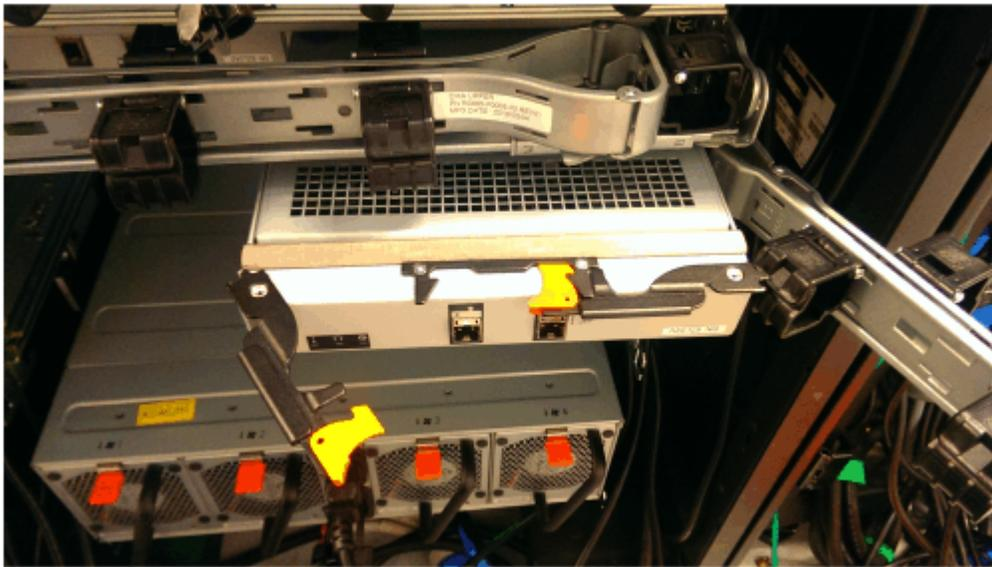

Figure 63. Install the expansion canister
1. Disconnect the elbow of the lower cable management arm to swing it out of the way, as shown in Figure 63 on page 63.
4. When the expansion canister is fully inserted, rotate each handle inward to lock it into position, as shown in Figure 63 on page 63.